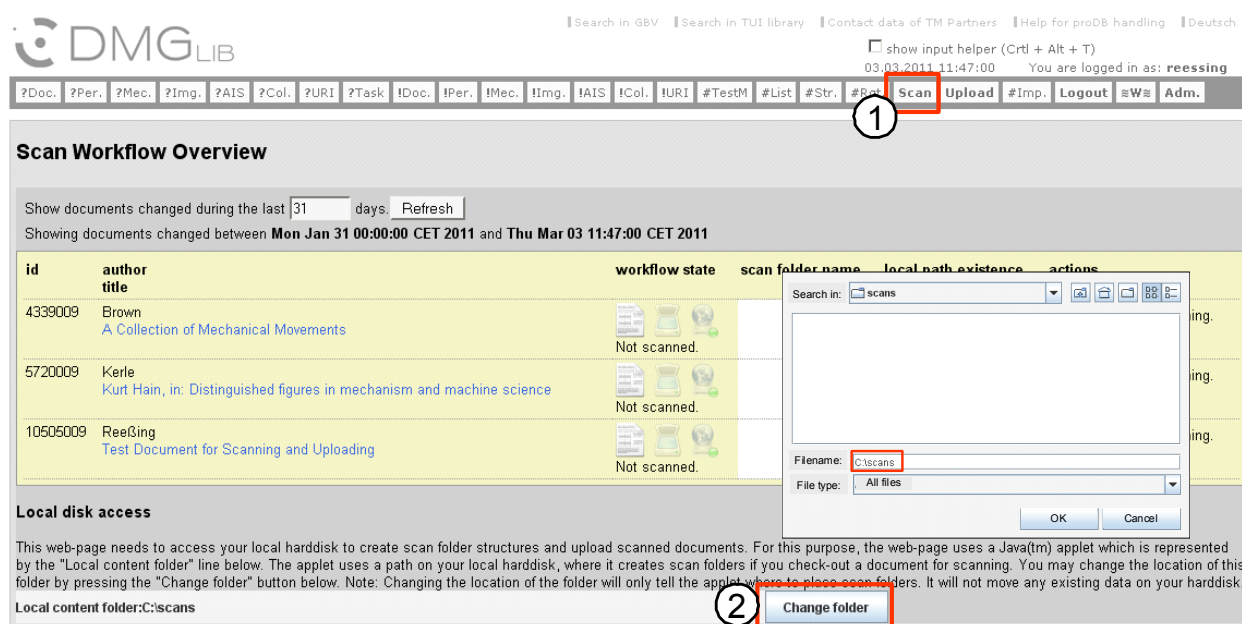

Figure 3 - Configuration of Scan Workflow Overview
- Navigate to the *Scan Workflow Overview* by pressing the **Scan tab button** in the ProDB main menu (Figure 3, Label 1; ProDB: <http://www.dmg-lib.org/dmglib/prodb/login.jsp>).
- Specify a folder** that will contain scanned content on your local hard disk. For this, press the **Change folder** button (Figure 3, Label 2) and select or create a folder using the standard file open dialog. A good choice would be "c:\scan". The ProDB website will create folders for each scanned document into this base folder. (Please note: You have to specify this path again if you change your PC.)